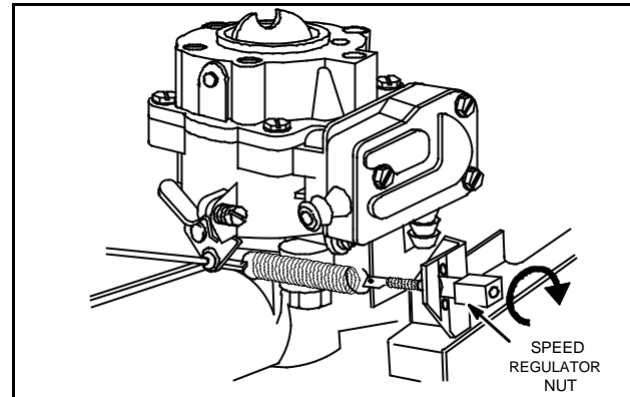

Fig. 45 – Adjust Low Speed
1. Disconnect governed idle spring and start engine. Turn speed regulating nut to obtain 1850 RPM, Top-No-Load RPM, Fig. 45.